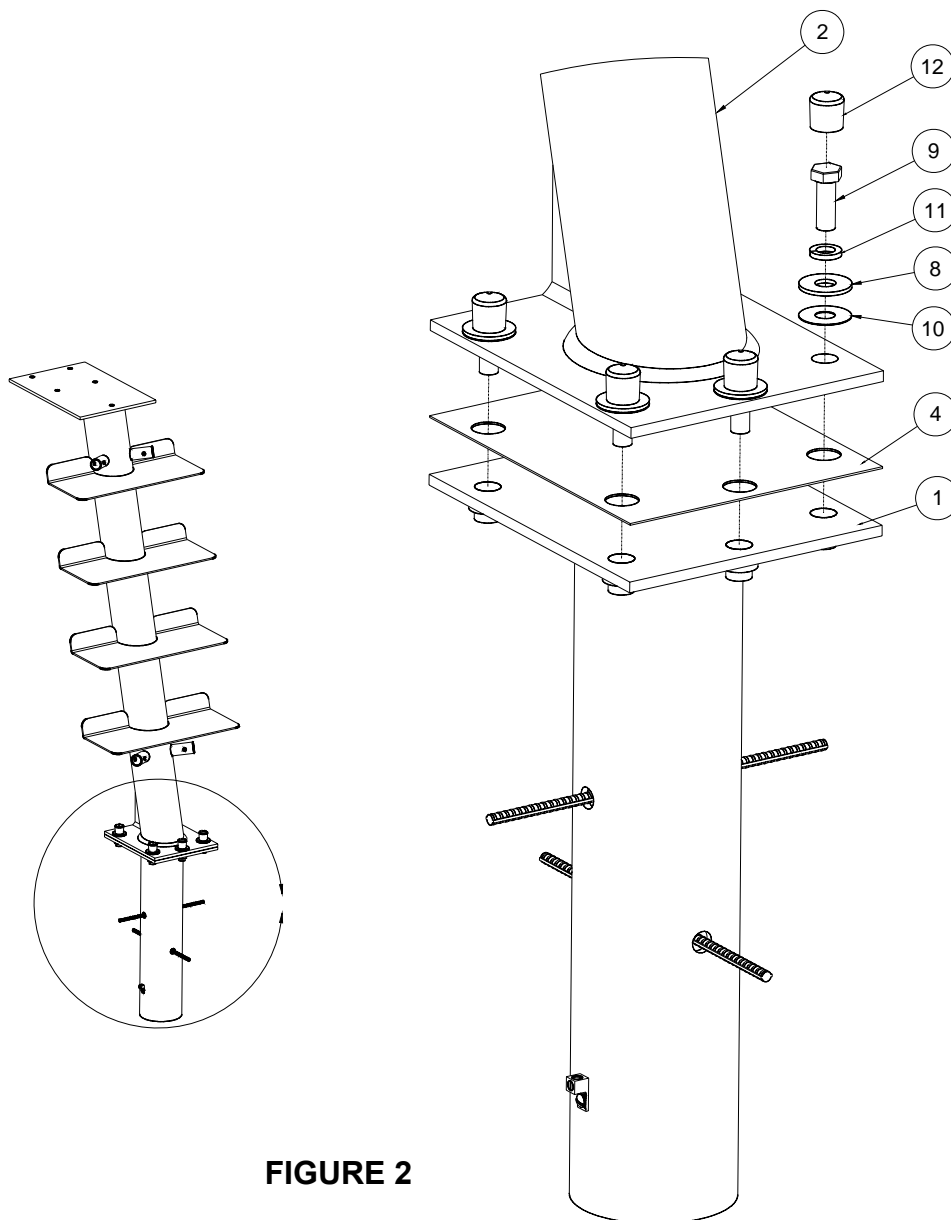

FIGURE 2
2. Place **Gasket (item 4)** over anchor and orient to match hole pattern. Attach the **Post Assembly (item 2)** onto the base anchor assembly using five (5) **5/8" hex head bolts (item 9)**, five (5) **5/8" flat washers (item 8)**, five (5) **5/8" nylon washers (item 10)**, five (5) **5/8" lock washers (item 11)** and five (5) **5/8" nut caps (item 12)**. See **FIGURE 2**.